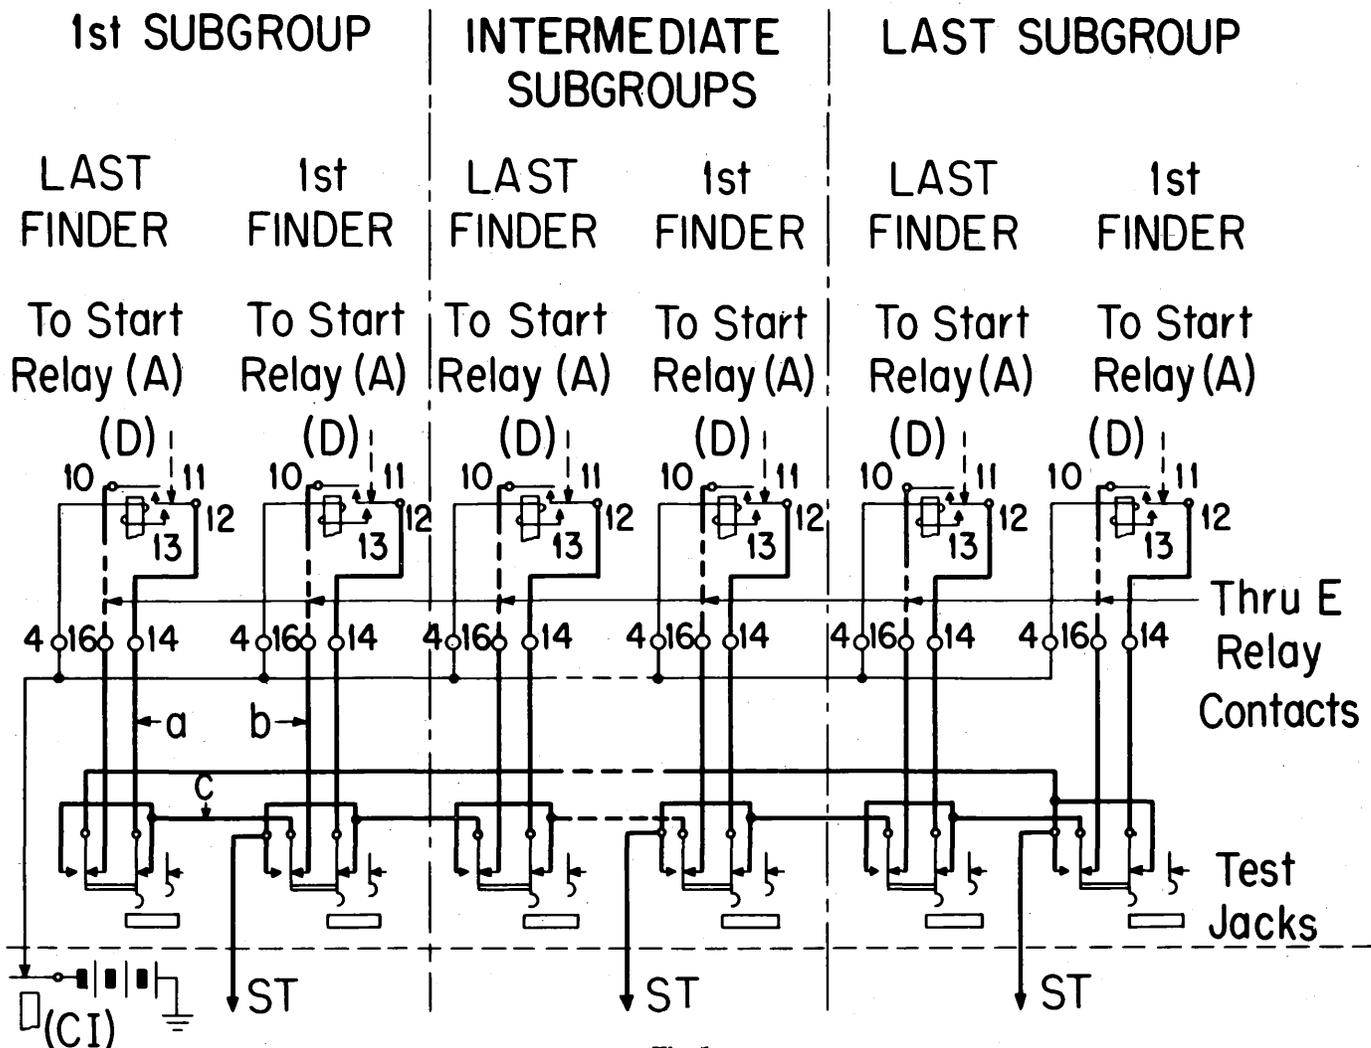

Fig. 1.
3.22 If hunting stops, the ground may be in this finder circuit. Again operate the CI relay momentarily. If this line finder starts to hunt with the 258-type plug in the test jack, the ground is on the "in" portion of the circuit between the test jack and the A relay winding (see a Fig. 1). Inspect this portion of the start lead circuit; the trouble should be cleared immediately.
3.23 If the switches continue to hunt after inserting the 258-type plug into the test jack of the first finder to start after operating the C1 relay, remove the plug from the test jack and insert it into the test jack of the preceding line finder of the same or preceding subgroup. If the switches stop hunting the ground is on the "out" portion of the start lead circuit between the D relay and the test jacks (see b Fig. 1).
3.25 If the switches continue to hunt after the plug is inserted into the test jack of the last finder in the group, remove the plug and proceed as in 3.21 and observe whether the same finder starts. (The ground may have been advanced through a busy switch on the original test.) Remove the cover of this switch and insulate contact 12 from 11 and 13 of the D relay. With one clip of the test receiver connected to the equipment end of a battery fuse, touch the other lead to contact 12 of the D relay. If a click is heard the ground is between the test jack of this finder and the test jack of the preceding finder of the same subgroup (see c Fig. 1). If the finder is the first finder in a subgroup, the ground may be on the ST lead of the subgroup toward the G relay or toward the test jack of the last finder of the preceding subgroup.